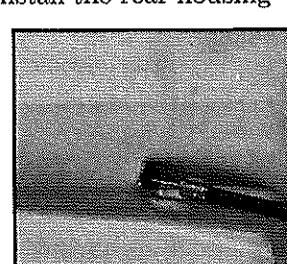

Fig. 28
11. Run the cable through the bottom bracket cable guide, or install the rear housing (Fig. 28), and connect the cable as normal.
2. Apply Loctite to all contact surfaces between the bearings and the frame or swingarm, and install the bearings. The "top hats" are installed into the frame and swingarm from the middle towards the outside, with the large, flat surface facing inside (Fig. 28).